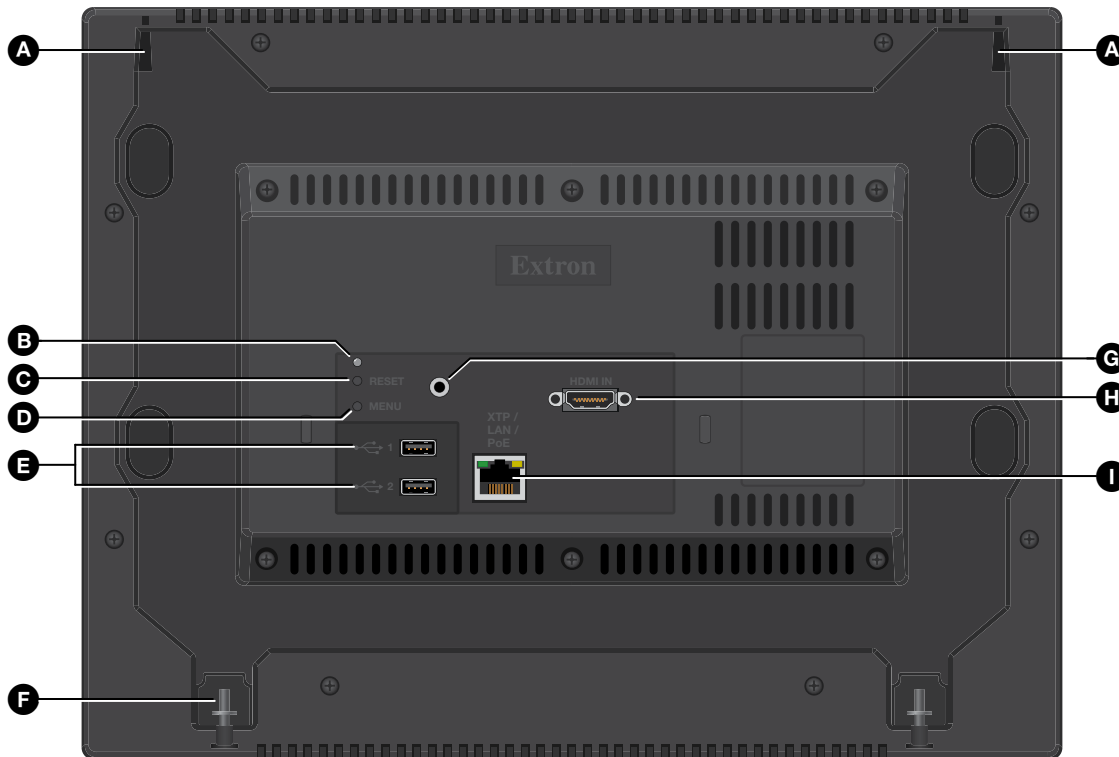

**Figure 2. TLP Pro 1225MG Front Panel**
Figure 2 shows the TLP Pro 1225MG front panel diagram. The TLP Pro 1525MG features are very similar.
Press the **Menu** button (figure 2, ❶ on page 3 or figure 3, ❶ on page 4) to open the setup menu. Select any of the six available screens (**Status**, **Network**, **Display**, **Audio**, **Input** and **Advanced**) by pressing the appropriate button in the navigation bar at the top of the screen (for more information, see the *TLP Pro 1225 and TLP Pro 1525 Series User Guide*).